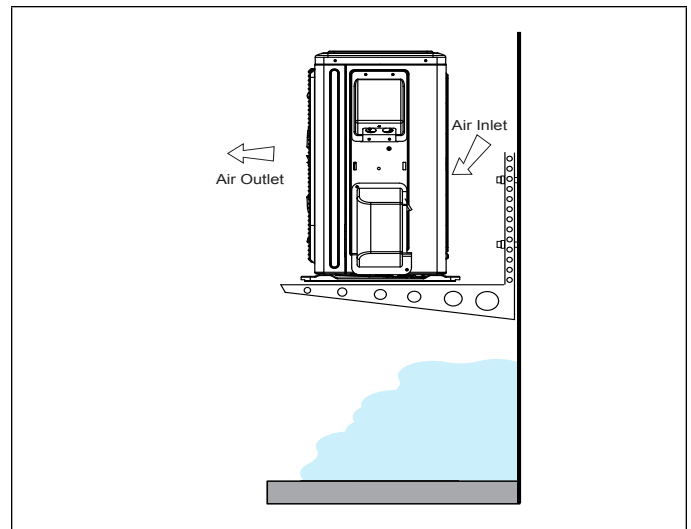

Figure 12. Outdoor Unit on Brackets above Snow Line
- The unit base should be elevated above the depth of average snows as illustrated in “Figure 12. Outdoor Unit on Brackets above Snow Line”